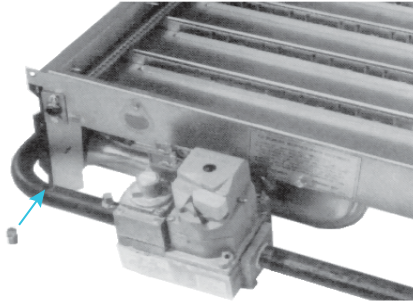

Figure 61. Pipe Plug Removal
- b. Remove pipe plug (see Figure 61) from manifold and install brass elbow for natural gas units or straight brass fitting for propane units.